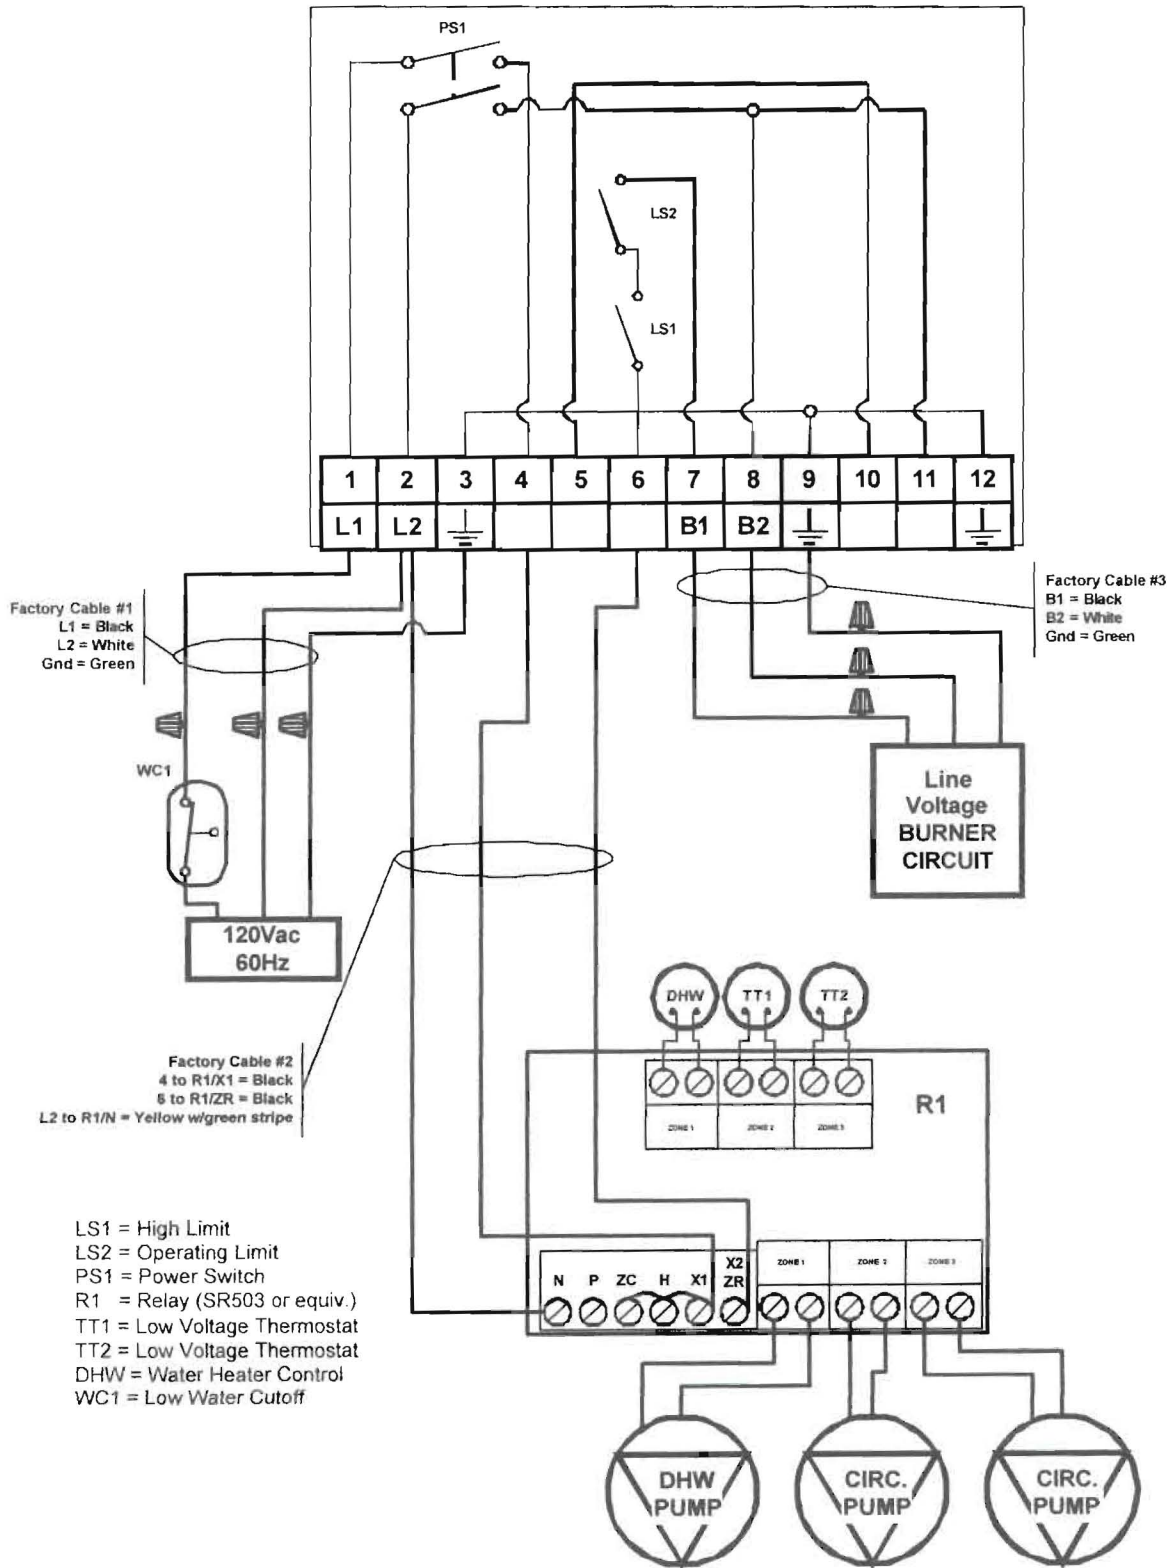

Figure 10
8. The wiring of a priority indirect with a Taco SR503 (or equiv.) is shown in **Figure 10**.